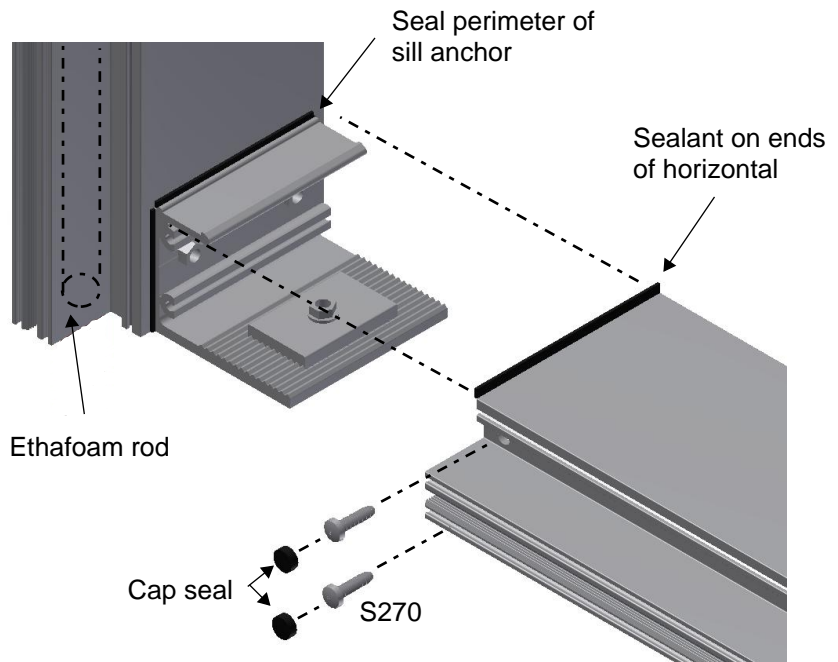

Figure 15: Attach the horizontal to the sill anchor.
- Attach the horizontal to the sill anchor using S270 screws as shown in Figure 15.
- Insert a 3/4" diameter ethafoam rod (P1094) as shown previously in Figure 15.